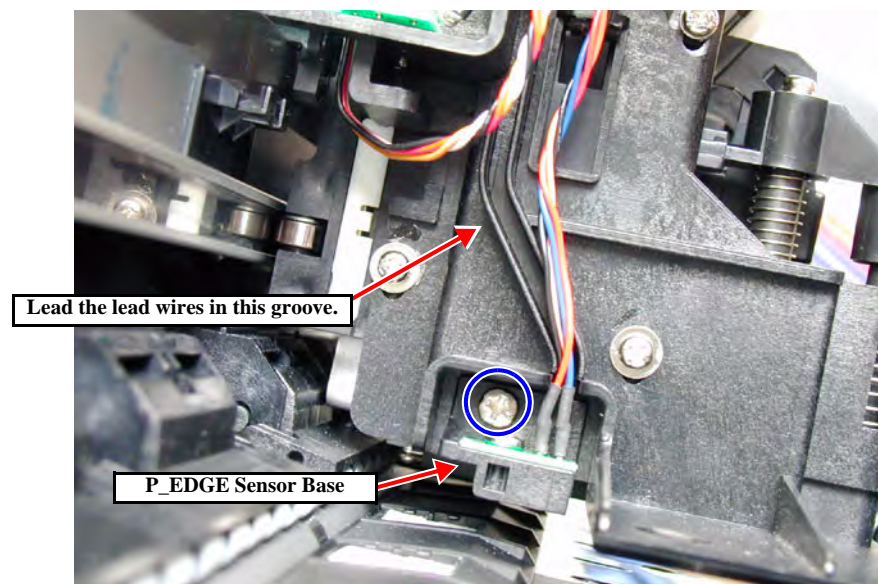

Figure 4-40. Removing the P_EDGE Sensor ASSY 2/2
8. Remove the one screw (M3×6) securing the EDGE Sensor Base ASSY and remove the EDGE Sensor Base ASSY. (See Figure 4-40)
After installing the P_EDGE Sensor ASSY on the Cutter Holder ASSY, fasten the harness to the harness holding path of the Cutter Holder ASSY. (See Figure 4-40)